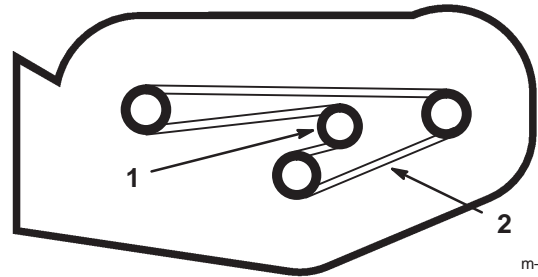

Figure 33
3. Push on the idler to release the tension and remove the belt from the pulleys (Fig. 33).
1. Install the new belt around the blade pulleys and the idler pulley (Fig. 33). The rear discharge model will have the same belt routing.